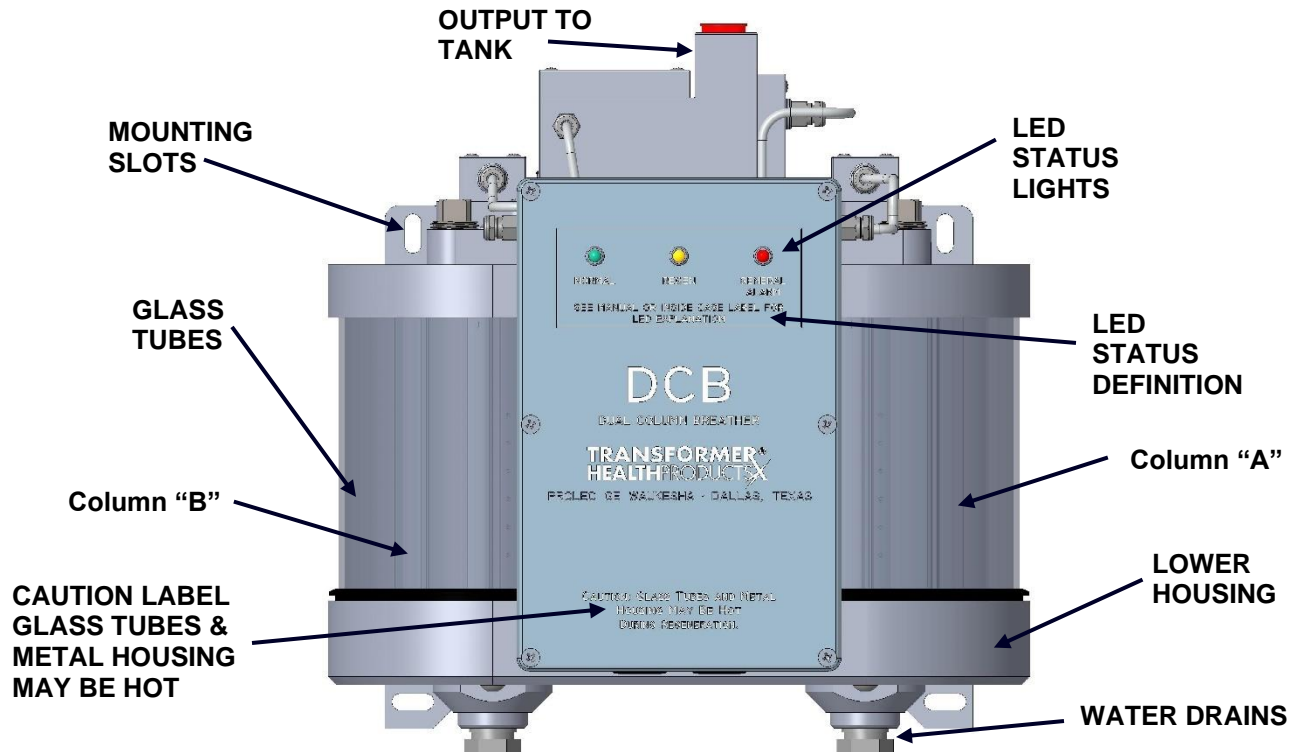

Figure 3 – DCB Components
3. Install included hose barb securely (see Figure 3 on page 10). Use of thread sealant or thread tape (if hose barb is not already pre-Teflon taped) is required to prevent water from flooding the silica gel chamber.